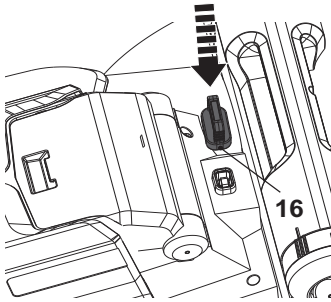
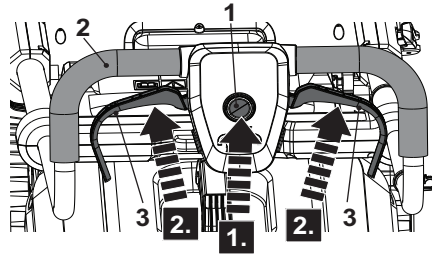

Fig. 18
Fig. 19
**NOTE:** The product can only be started by pressing the safety switch button (1) followed by squeezing the start levers (3). Reverse operation cannot start the product.
1. Install the battery pack (22) into the battery compartment.
2. Insert the safety key (16) into the slot fully (Fig. 18).
3. Stand behind the grip handle (2).
4. While holding the safety switch button (1) pressed (Fig. 19, step 1), pull the start levers (3) towards the grip handle (2) (Fig. 19, step 2).
5. After the mower starts, release the safety switch button (1).
7. Release the start levers (3) to stop the mower.